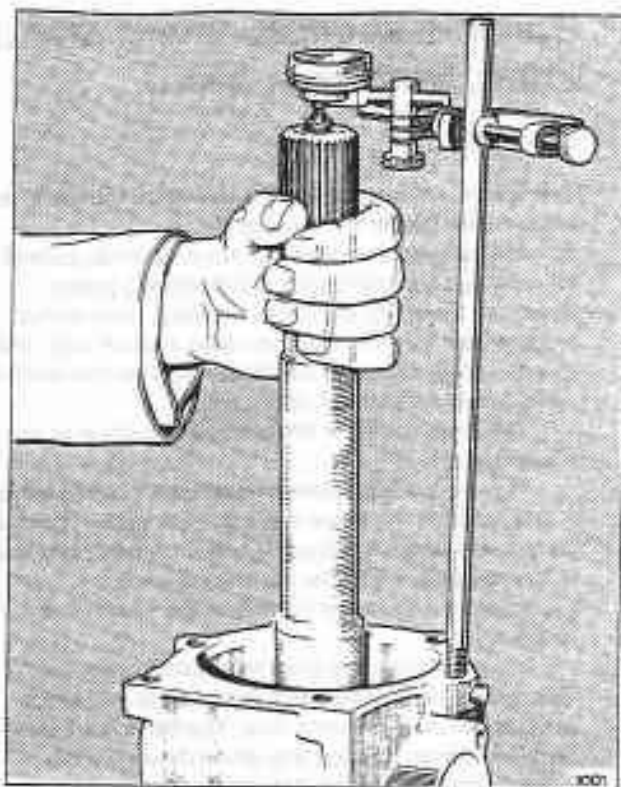

Fig. T19-3 Checking the rear unit end-float
3. Mount a dial test indicator onto the bolt so that the indicator stem registers with the end of the output shaft (see fig. T19-3).